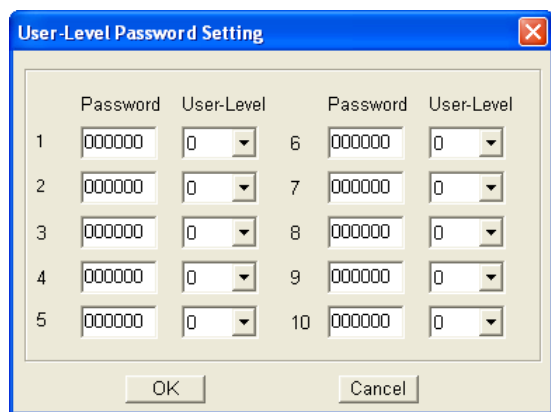

Figure 5-17 User-Level Password Setting window
**User-Level Password Setting** is used to set passwords belonging to different levels. After users click **User-Level Password Setting** on the **Global Setting** menu, the **User-Level Password Setting** window will be opened, as shown in Figure 5-17. If a user level is set for an object, the users are asked to type a password when the function key corresponding to the object is pressed. After the users type a password belonging to the user level set, or a password belonging to a higher user level, the object corresponding to the function key pressed will be enabled. If the value selected in a **User Level** drop-down list box is 0, there will be no user level. The user levels arranged in ascending order are 1~4. The password typed in a **Password** box must be composed of six numerals. 000000 can not be a password.